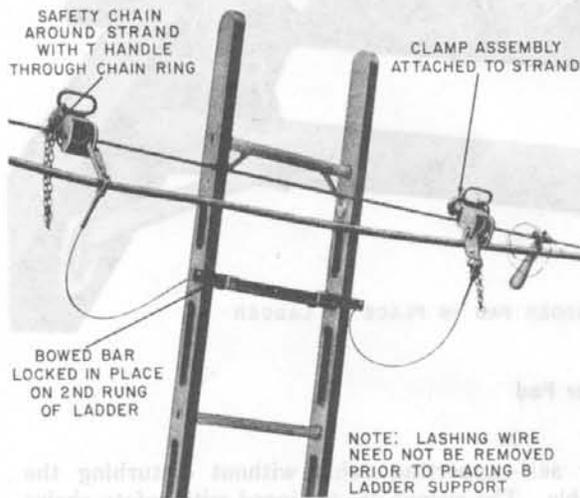

Fig. 14—B Ladder Support Attached to Strand
6.16 To use the B Ladder Support, place the ladder against the strand and secure the bar of the sling assembly to the back of the ladder on the second rung from the top of the ladder by pushing the hooks toward the side rails until the hooks bind on the rung. Attach the clamp assemblies to the strand, as illustrated in Fig. 14. Place the safety chains around the strand to prevent the ladder from turning in the event a clamp becomes accidentally disengaged.